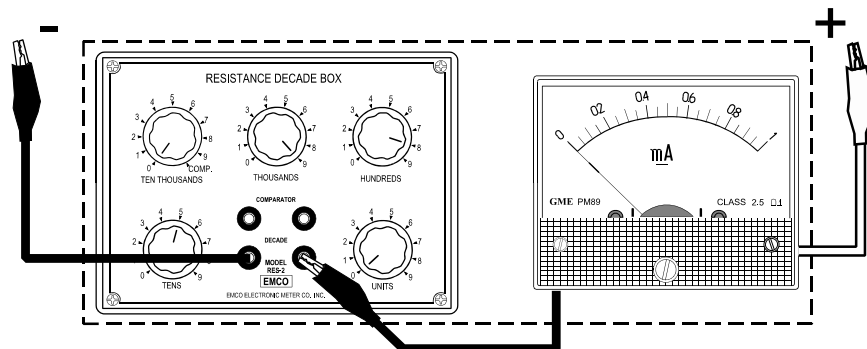

Figure 8-5
- A6. Using a decade box as your multiplier resistance, construct your experimental 0-10V voltmeter as shown in Figure 8-5.